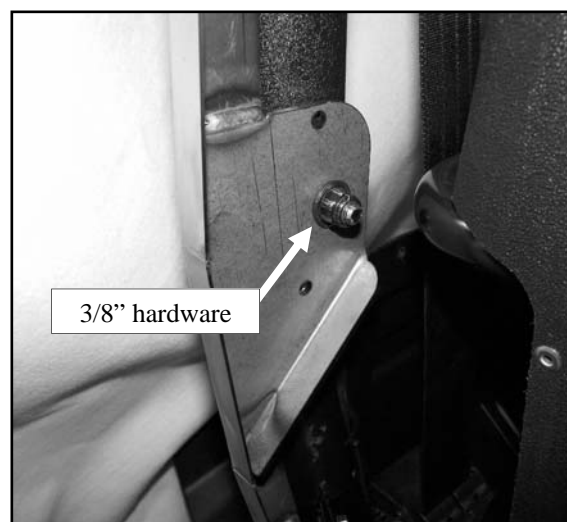

Fig. 6.6 (View of rear right corner)
6.6 See fig. 6.6. Clamp the rear leg to the R.O.P.S. and torque the 3/8-24 bolts to 47 ft.-lbs. (64 N-m) at this time.